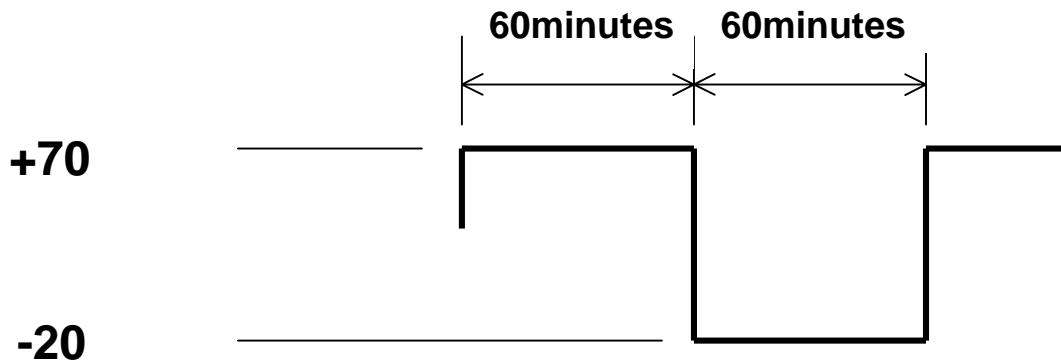

Fig.1
For the heat shock test, 10 cycles of heat shock shall be applied as shown in Fig.1, and then a 2 hour duration at a normal temperature.
4.2 Test method (Shall be performed by setting the static electricity tester as shown in Fig 1).